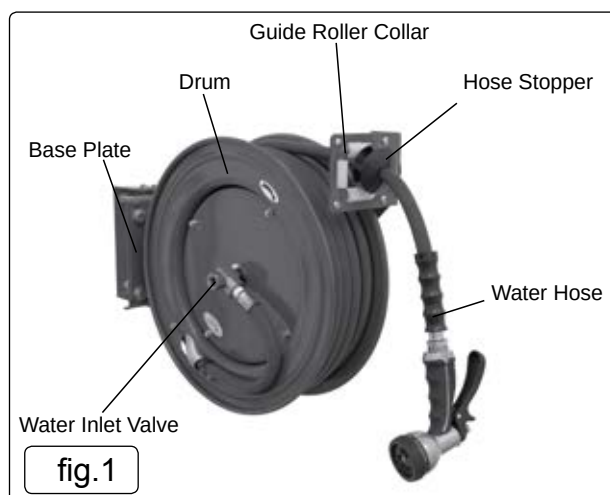
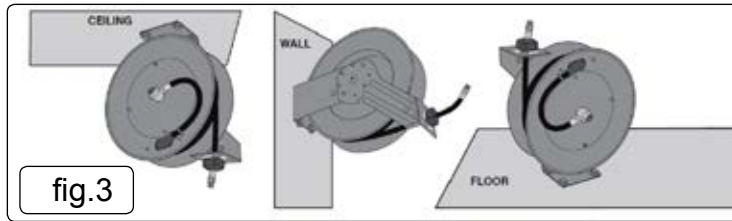

fig.1
fig.3
- 4.1.3. Fasten the mounting plate (fig.3) in the desired location. Reel dimensions and the pattern of the mounting holes in the base are shown below. Tighten all hardware securely.
- 4.1.4. The guide arm (fig.1) that guides the hose on and off the reel can be repositioned for better function as shown in the picture below. If desired, follow steps 4.1.5 through 4.1.7 to reposition the arm. Otherwise continue with step 4.2.1.
- 4.1.6. Remove the four sets of nuts and washers holding the guide arm (fig.1) to the mounting plate (fig.3).
- 4.2.1. Apply Teflon tape or pipe sealant to the supply hose threads then attach it to end fitting of the reel's swivel assembly (behind the water inlet valve) (fig.1) and tighten. If not already connected, the unpressurized supply hose can now be connected to the supply source. If the reel was supplied with hose already wound on it, continue with step 4.2.7. If not, continue with the next step.
- 4.2.3. Insert the end of the delivery hose through guide roller collar (fig.1) and feed it through the opening in the drum flange.
- 4.2.4. Use Teflon tape or pipe sealant on the hose fitting threads then screw it into the fitting of the short hose attached to the reel's swivel assembly under the water inlet valve (fig.1) and tighten.
- 4.2.5. Attach the hose stopper (fig.1) to the other end of delivery hose.
- 4.2.8. If a final adjustment to the hose stopper (fig.1) is required, pull the hose from the reel and allow it to latch at a desired length. Loosen the hose stopper bolts, and slide it to a position close to the guide roller collar (fig.1). Retighten the hose stopper bolts.